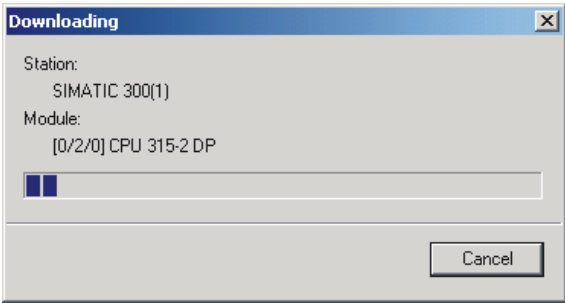

FIG. 148: DOWNLOADING CONFIGURATION PROMPT
Step 14. Click on OK. A prompt appears indicating that the Step 7 is downloading the configuration to the PLC. (See Fig. 148)